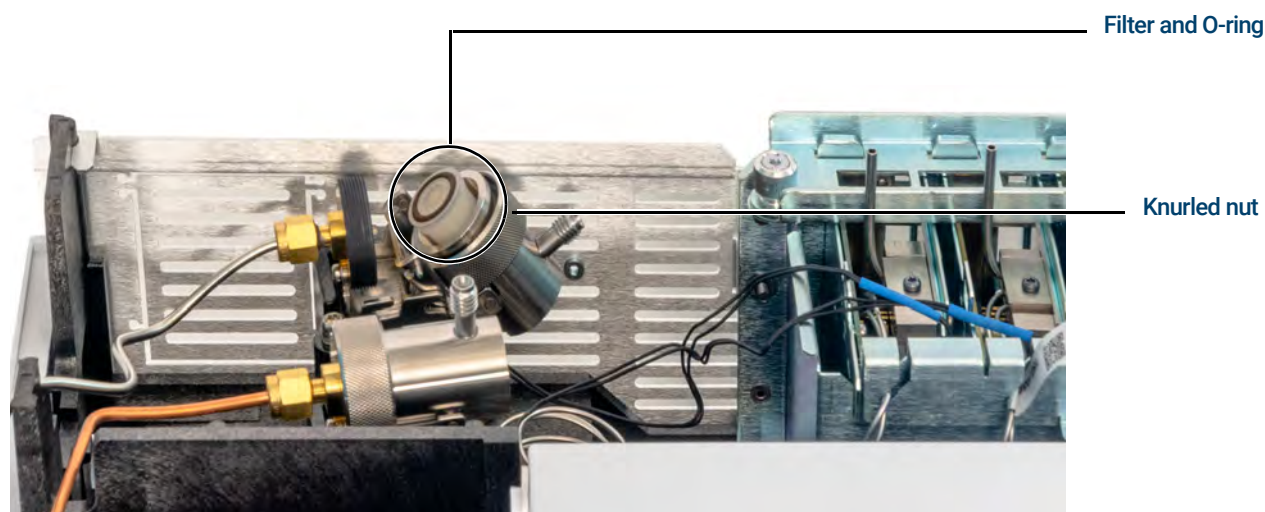

Figure 23. Slide trap assembly to expose the filter
- 5 Slide the trap assembly back from the guided mounting bracket and tilt up to expose the filter as shown in **Figure 23**.